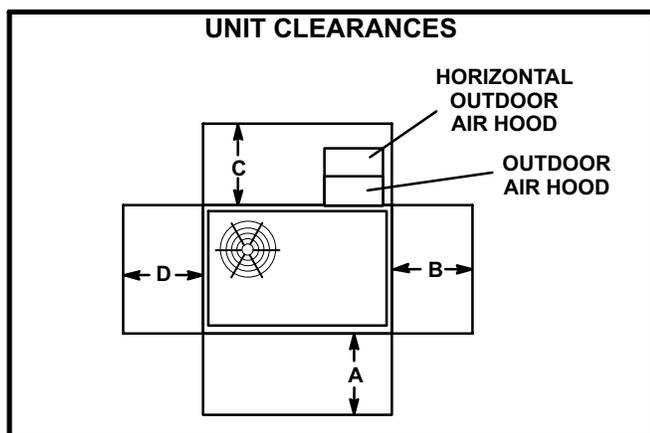

FIGURE 1
The ZH unit is CSA certified as a heat pump with cooling and with or without auxiliary electric heat for non-residential use only at the clearances to combustible materials as listed on the unit nameplate and in figure 1.
- 1- Specified installation clearances must be maintained when installing units. Refer to figure 1.